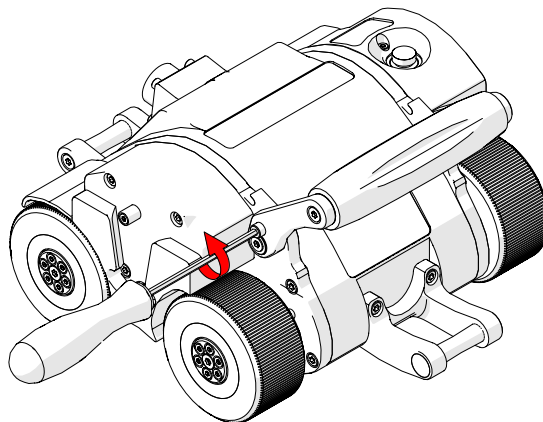

Fig. 42 - Unscrew handle lock screw
1. To lower the handle, use the supplied 3 mm driver to loosen the handle lock screws on either side of the handle (Fig. 42).